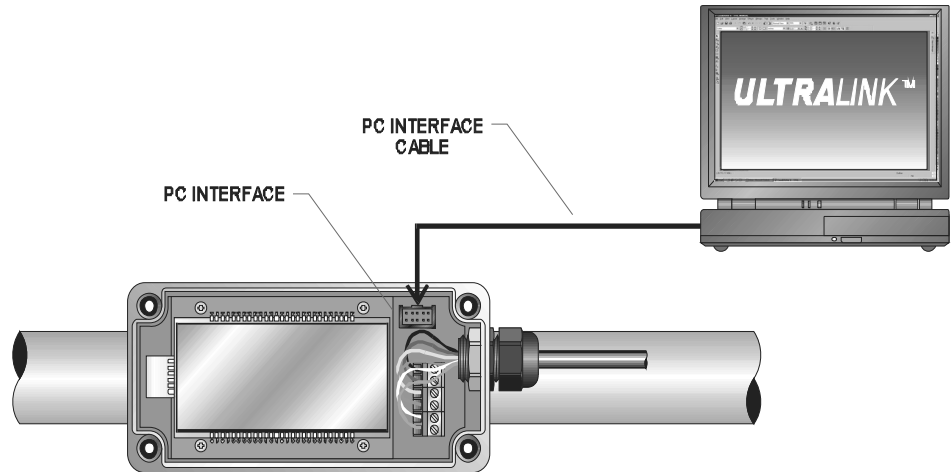

Figure 3.1
1. Connect the PC to the TFX flow meter using the PC communications cable, Dynasonics P.N. D010-0204-001. See **Figure 3.1** on page 3.2.